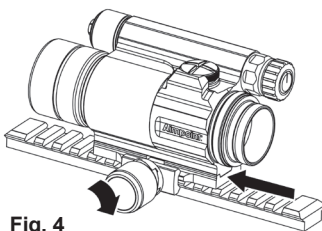

Fig. 4
3 With the recoil stop (2) positioned in a groove of the rail, push the sight with mount forward (toward muzzle) and tighten the torque knob (1) clockwise until it snaps twice. See Fig. 4. Retighten the knob after a few rounds if necessary.